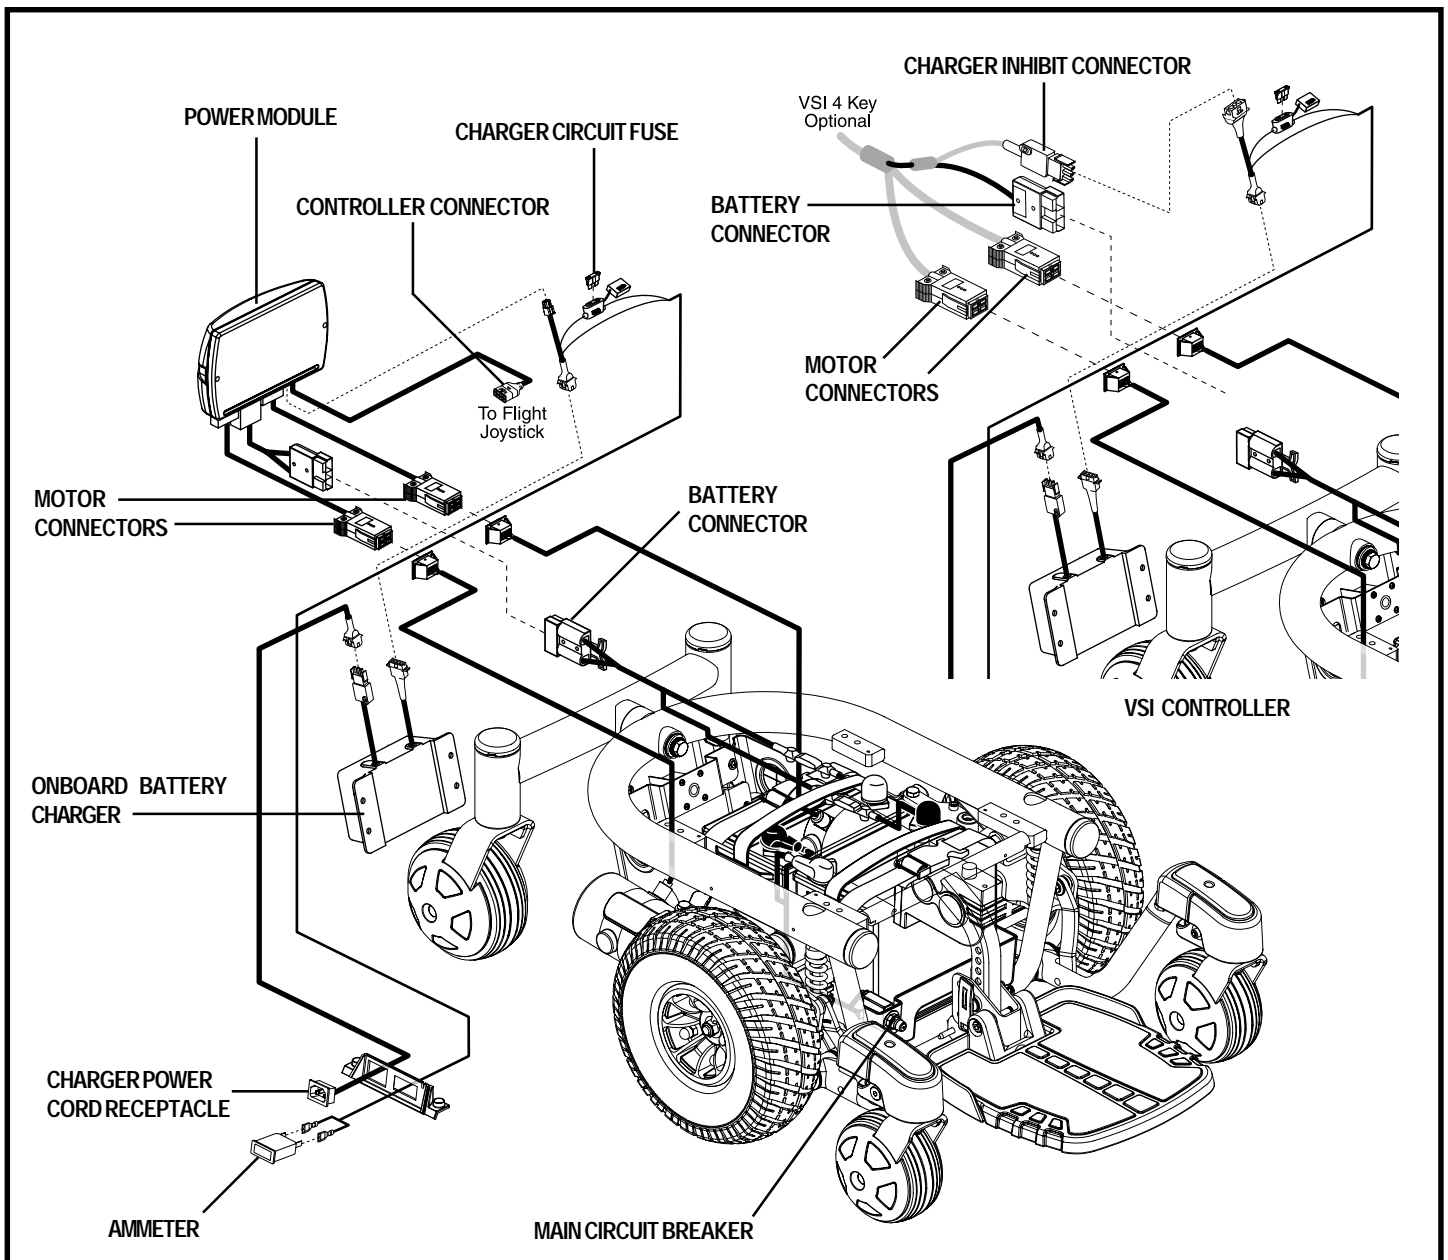

Figure 7. Jazzy 610 Series Electrical Components
The electrical components are located inside the power base. The ammeter and the charger power cord receptacle are located on the right side of the power base. The main circuit breaker is located on the front of the battery tray. The controller connector(s) are located inside the power base. See figure 7.
7. Plug the controller connector(s) into the power base. See figure 7.
3. Disconnect the controller connector(s) from the power base. See figure 7.